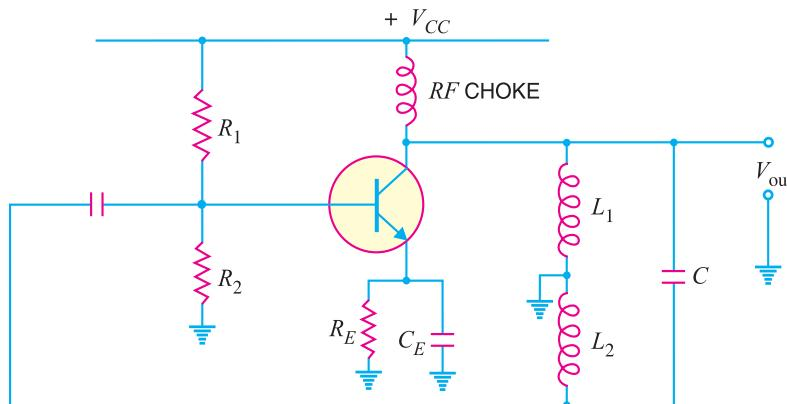

Fig. 14.25
- Figure 14.25 shows the Hartley oscillator. If $L_1 = 1000 \mu\text{H}$, $L_2 = 100 \mu\text{H}$ and $C = 20 \text{ pF}$, find the (i) operating frequency and (ii) feedback fraction.
4. For the Hartley oscillator shown in Fig. 14.25, $C = 250 \text{ pF}$, $L_1 = 1.5 \text{ mH}$, $L_2 = 1.5 \text{ mH}$ and $M = 0.58 \text{ mH}$. Determine the operating frequency. [159.2 kHz]